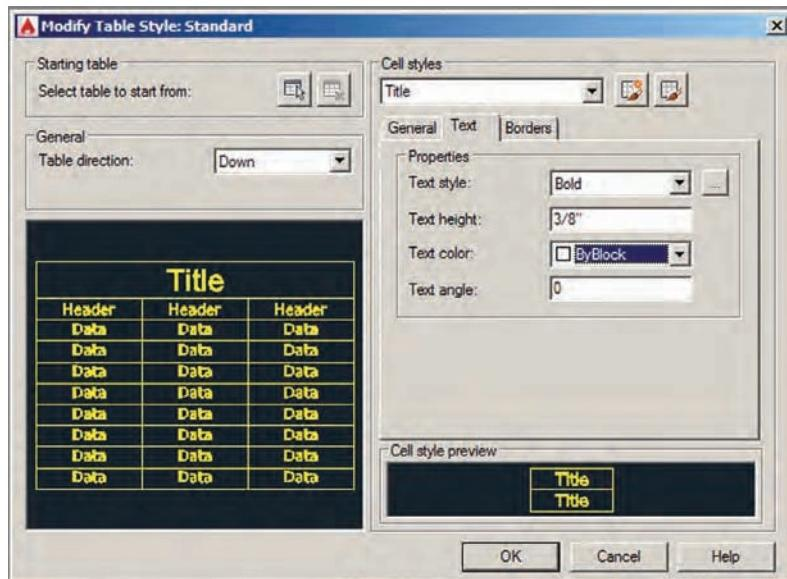

FIGURE 15.16 Editing the Title cell style text properties
3. Select the Text tab within the Modify Table Style: Standard dialog box. Open the Text Style drop-down menu and select Bold. Double-click the Text Height text box, type **3/8** (or **0.80** cm), and press the Tab key (see Figure 15.16).